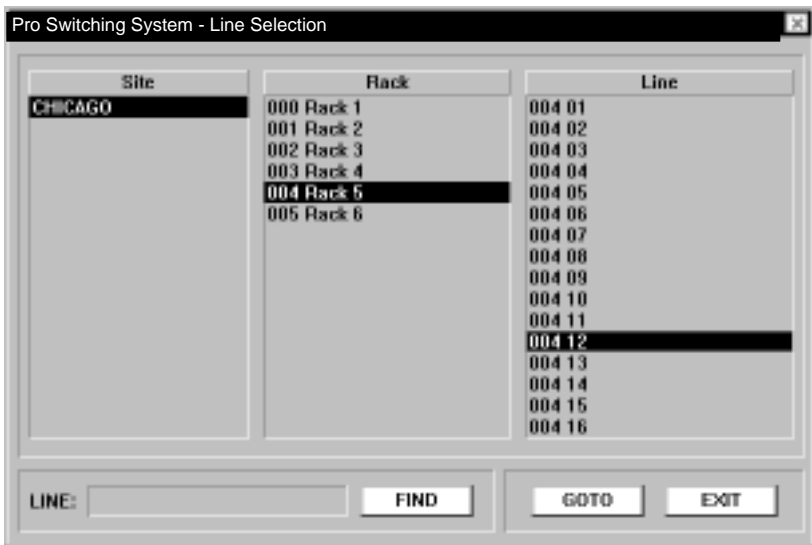

Figure 6-27. Line Selection Screen.
1. From the main menu, select Pro Switching System, then GoTo, then Line. The Line Selection screen (Figure 6-27) appears.